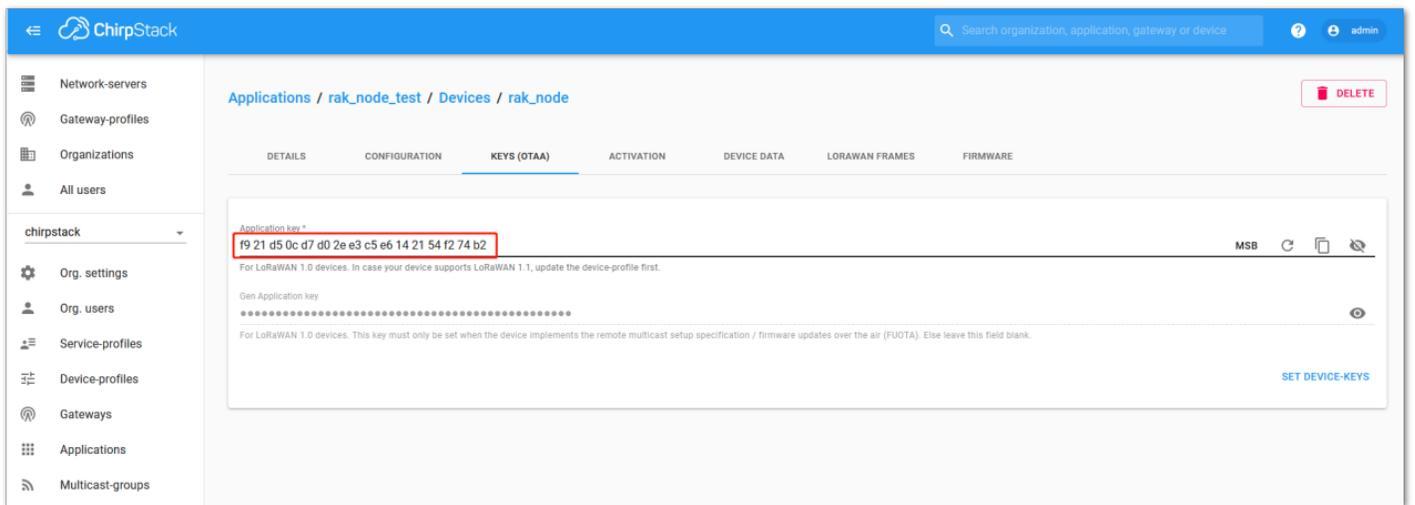

Figure 82: Application key associated with the new device
4. To end the process, it is a good practice to review that the Application Key is properly associated with this device. The Application Key can be verified in the **KEYS(OTAA)** tab, as shown in **Figure 82**.